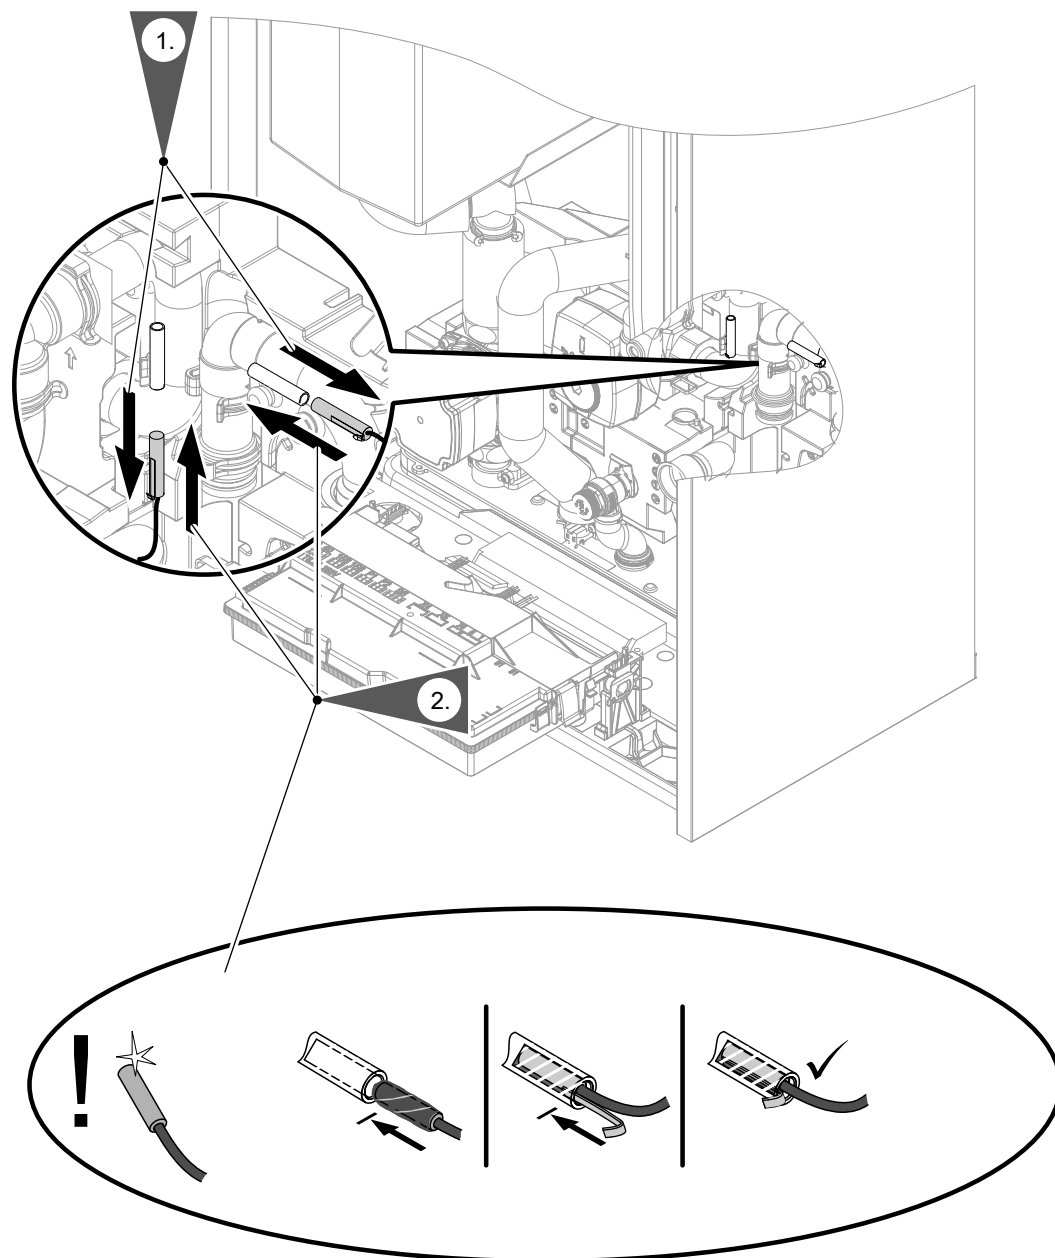

Fig. 93
- Secondary circuit temperature sensors: See Fig. 93 and 94.